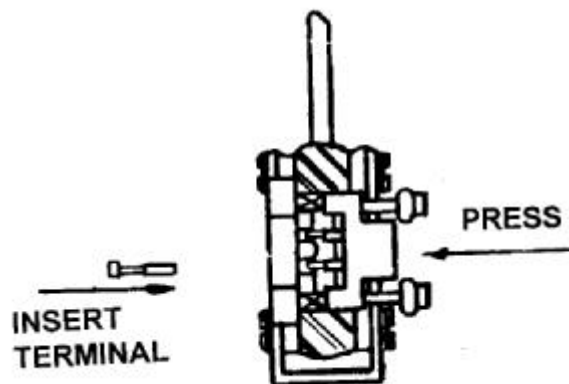

Figure 1
1. Press terminal holder as shown in Figure 1.